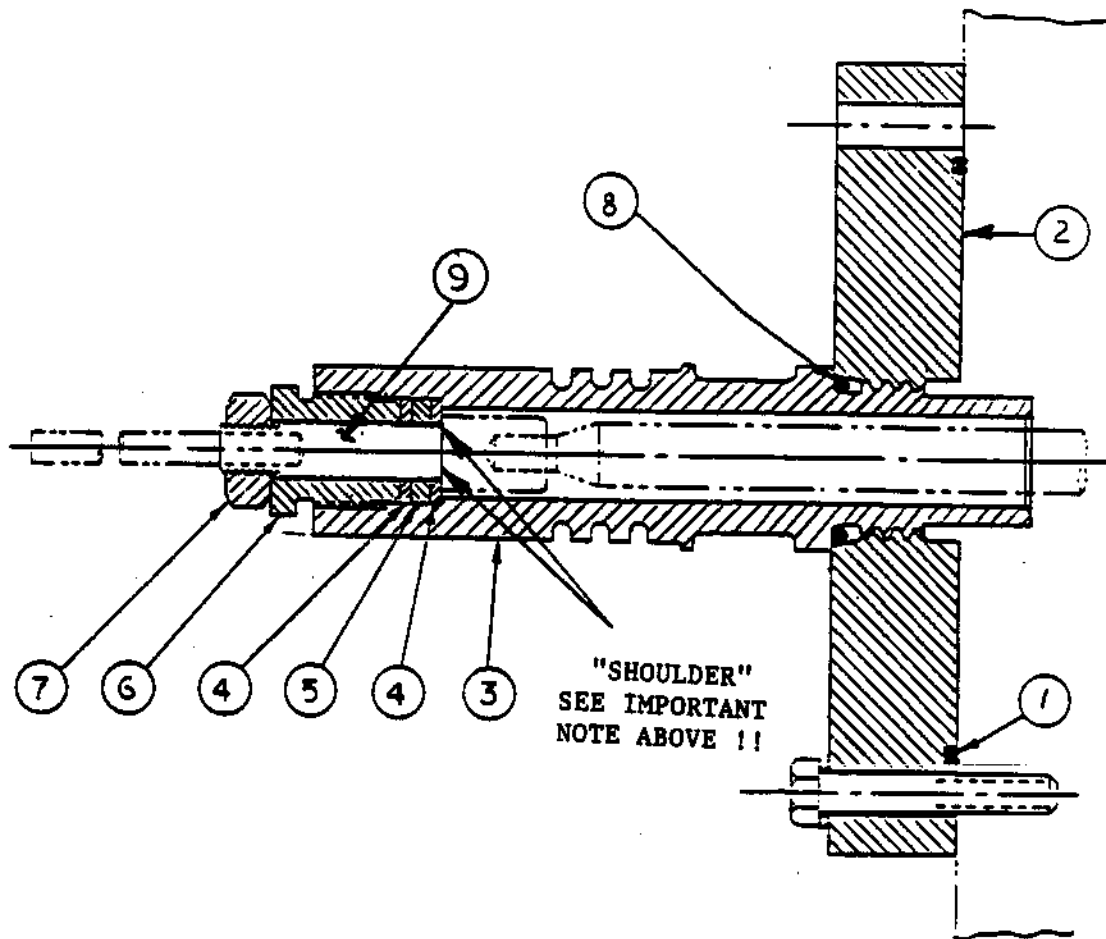

Fig. 2 Typical Terminal Arrangements
4. Look in end of insulator and check to see if terminal adapter shoulder is flush with step in insulator bore or slightly recessed toward motor (see Fig. 2).
(Reference Fig. 2)